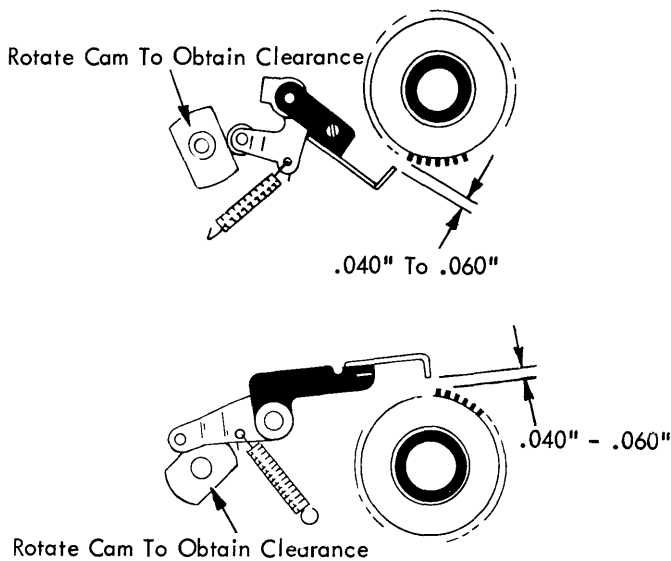

FIGURE 26. Shift Interlock Cam
8. Shift Interlock Cam - With the cycle clutch latched at rest and the backlash of the cycle shaft and filter shaft removed in the operating direction, advance the cam until a clearance of .040" to .060" exist between the tip of the interlock and the top of a tooth on the shift clutch ratchet (Fig. 26).